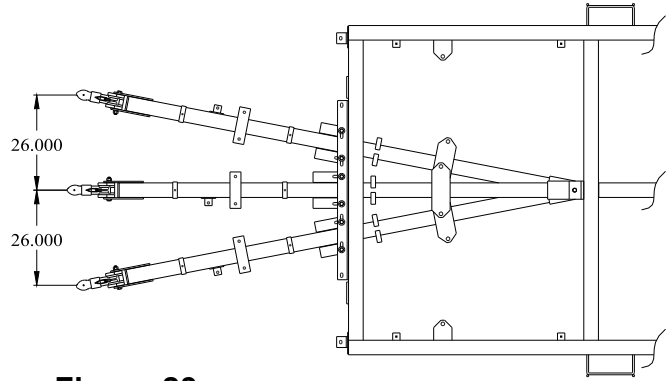

Figure 23
3. The tongue on the Boll Buggy can be mounted in three positions: offset left or right, and on center line. Determine required position and bolt in place. See Figure 23 for dimensions.